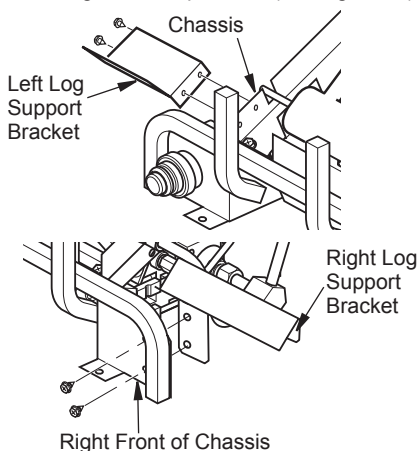

Figure 18 - Installing Log Support Brackets
1. Install left bracket to left side of chassis using 2 screws provided (see Figure 18).
2. Install right bracket to right front of chassis using 2 screws provided (see Figure 18).